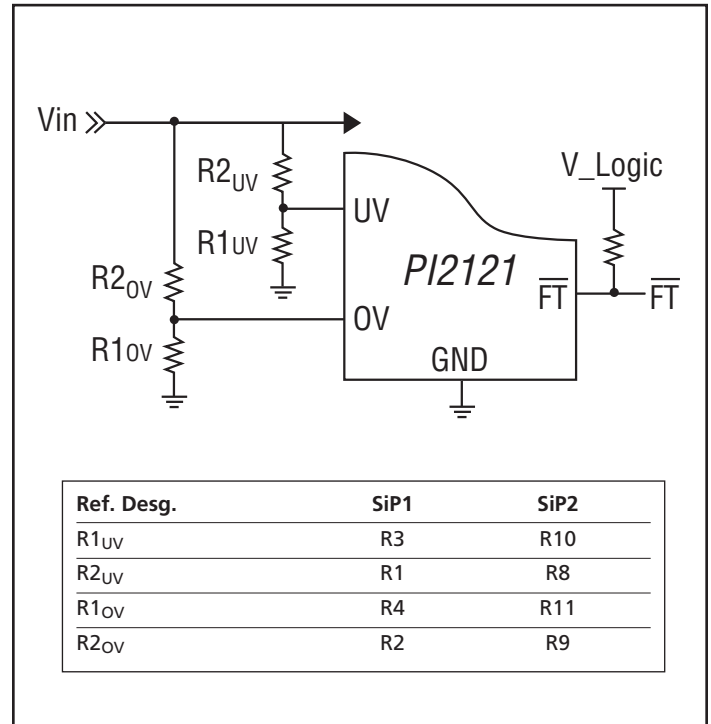

Figure 4 – UV & OV two-resistor divider configuration
2.1 UV and OV programmable resistors are configured for a 3.3 V V_{in} (BUS voltage) application in a two-resistor voltage divider configuration as shown in Figure 4. UV is set to 2.6 V and OV is set for 3.8 V, $R1_{OV}$ and $R1_{UV}$ are 2.00 K Ω 1%. If PI2121-EVAL1 is required to be used in a different V_{in} voltage application please follow the following steps to change the resistor values.